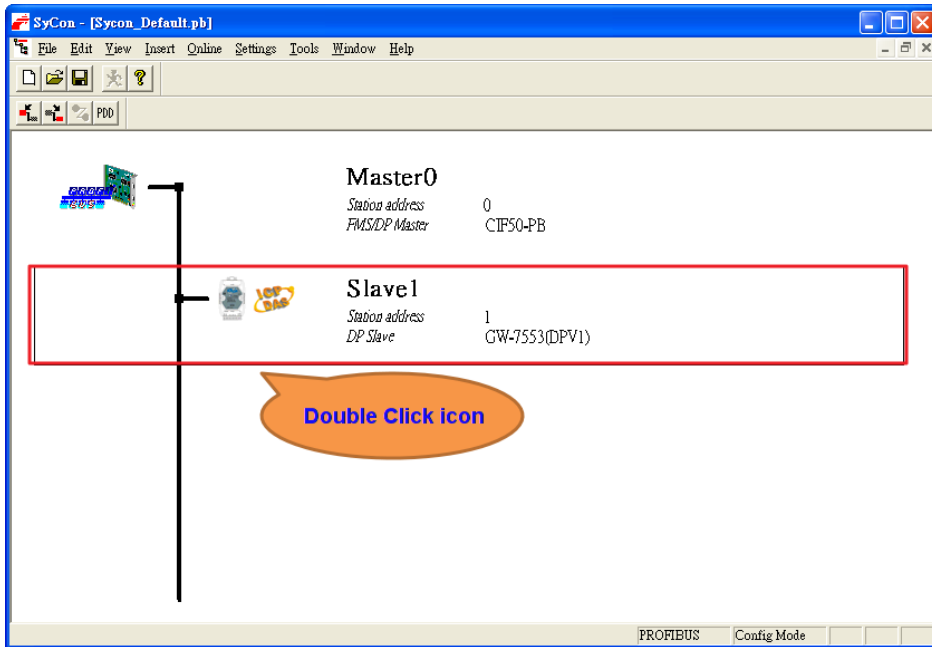
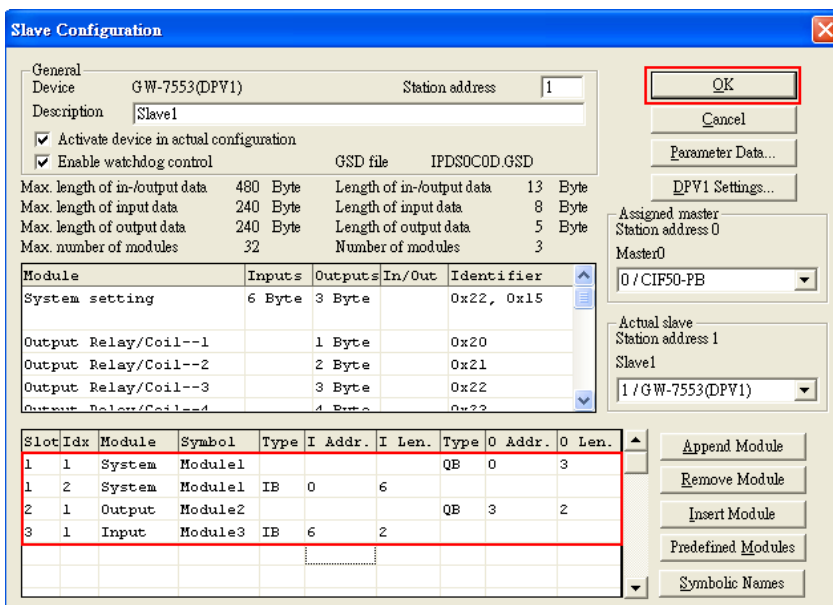

Figure 59 Double click the GW-7553 icon to open the “Slave configuration” window
Figure 60 Select modules
Step 4: Set the GW-7553 modules, as shown in **Figure 59** and **Figure 60**.